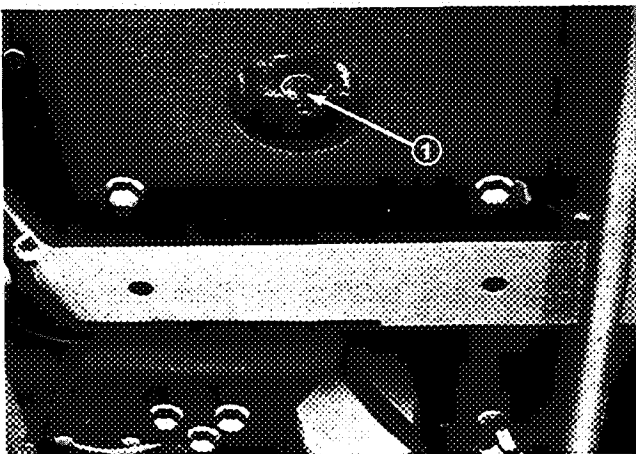

Figure 28
2. Disengage hood latch and open the hood. Set drain pan under the housing and in line with drain plug (Fig. 28).